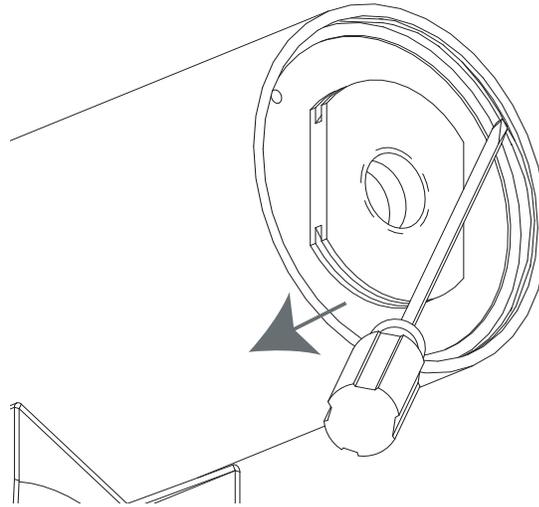

Figure 8: Inserting Cradle Assembly
4. Attach the housing to the appropriate mount using instructions provided with the mount. According to the orientation of the housing, the cradle assembly may need rotating to align the camera image. To rotate the cradle assembly (while mounted), use 1-3/4" wrench or channel lock pliers to grasp the flats on the raised section of the rear cap to rotate to the desired position. This is best accomplished while viewing the image on the monitor. See **Figure 8**.
2. Insert the tip of a flat head screwdriver in the slot of the housing, lay the screwdriver across the raised section of the rear cap, and push in towards the housing to close the cradle. See **Figure 8**.